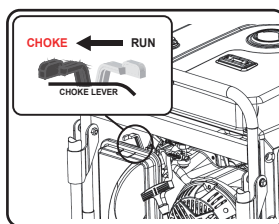

Fig 10
- Slide the choke lever to the “Choke” position. (See fig 10) **SKIP THIS IF THE ENGINE IS WARM OR HOT.**
- Slide the choke lever to the “Choke” position. (See fig 10)